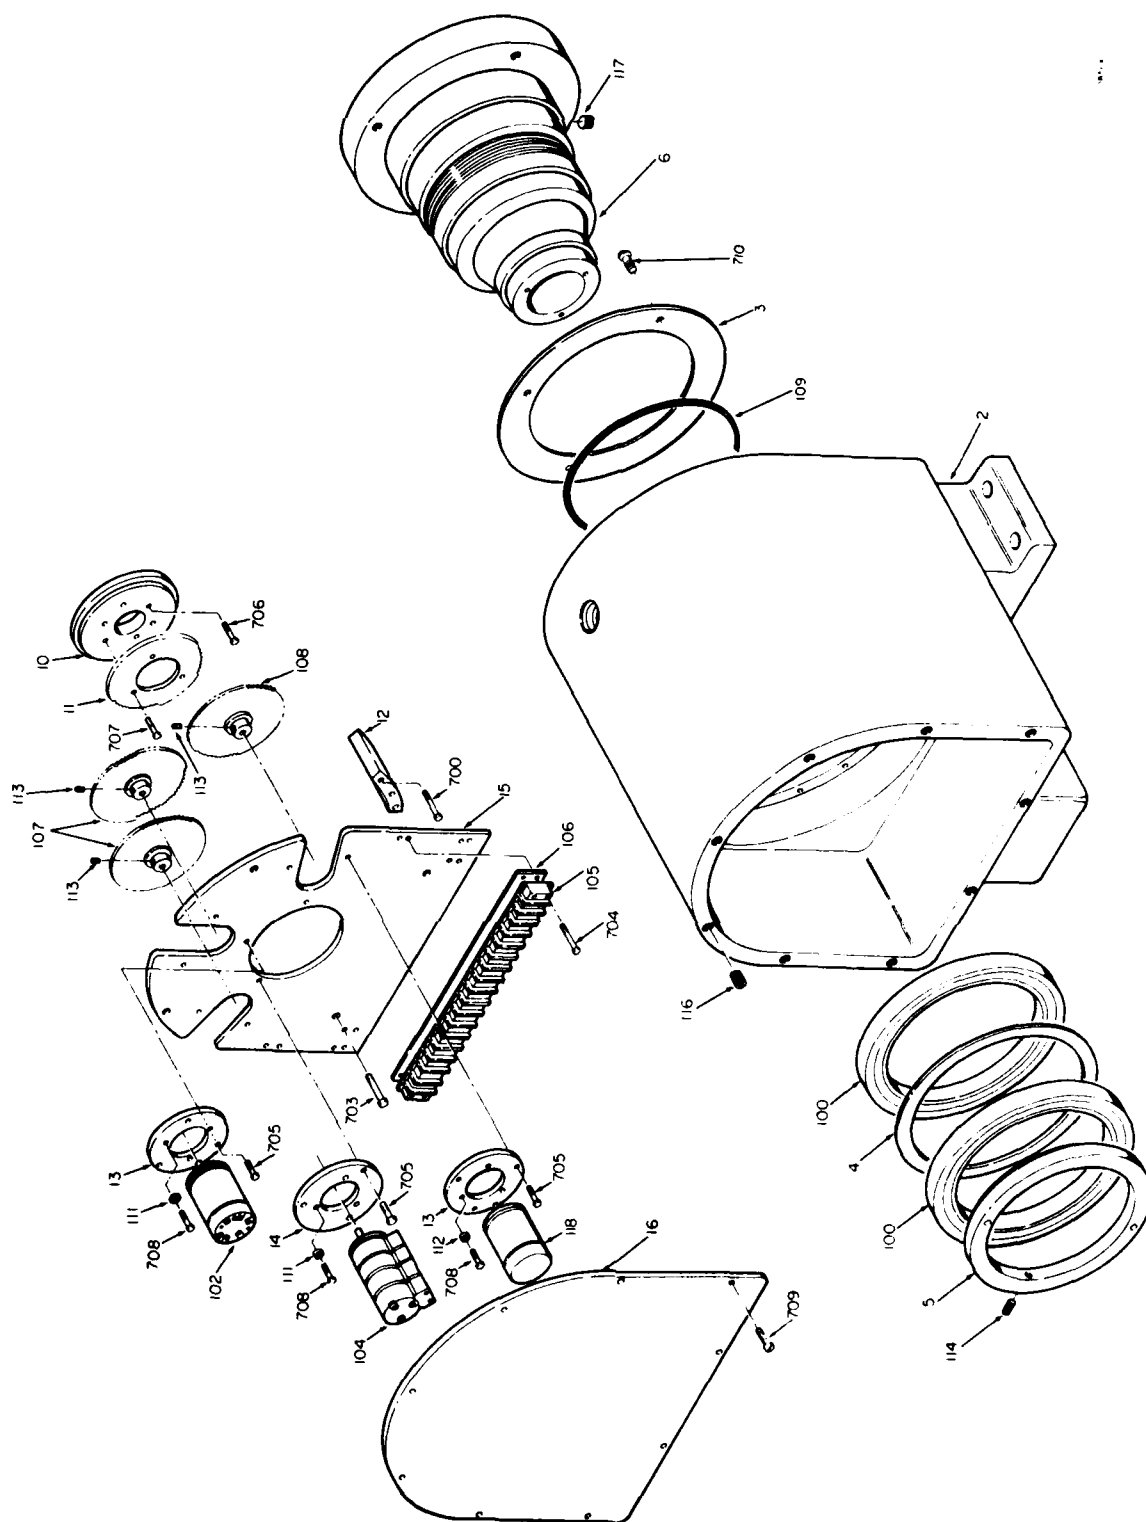
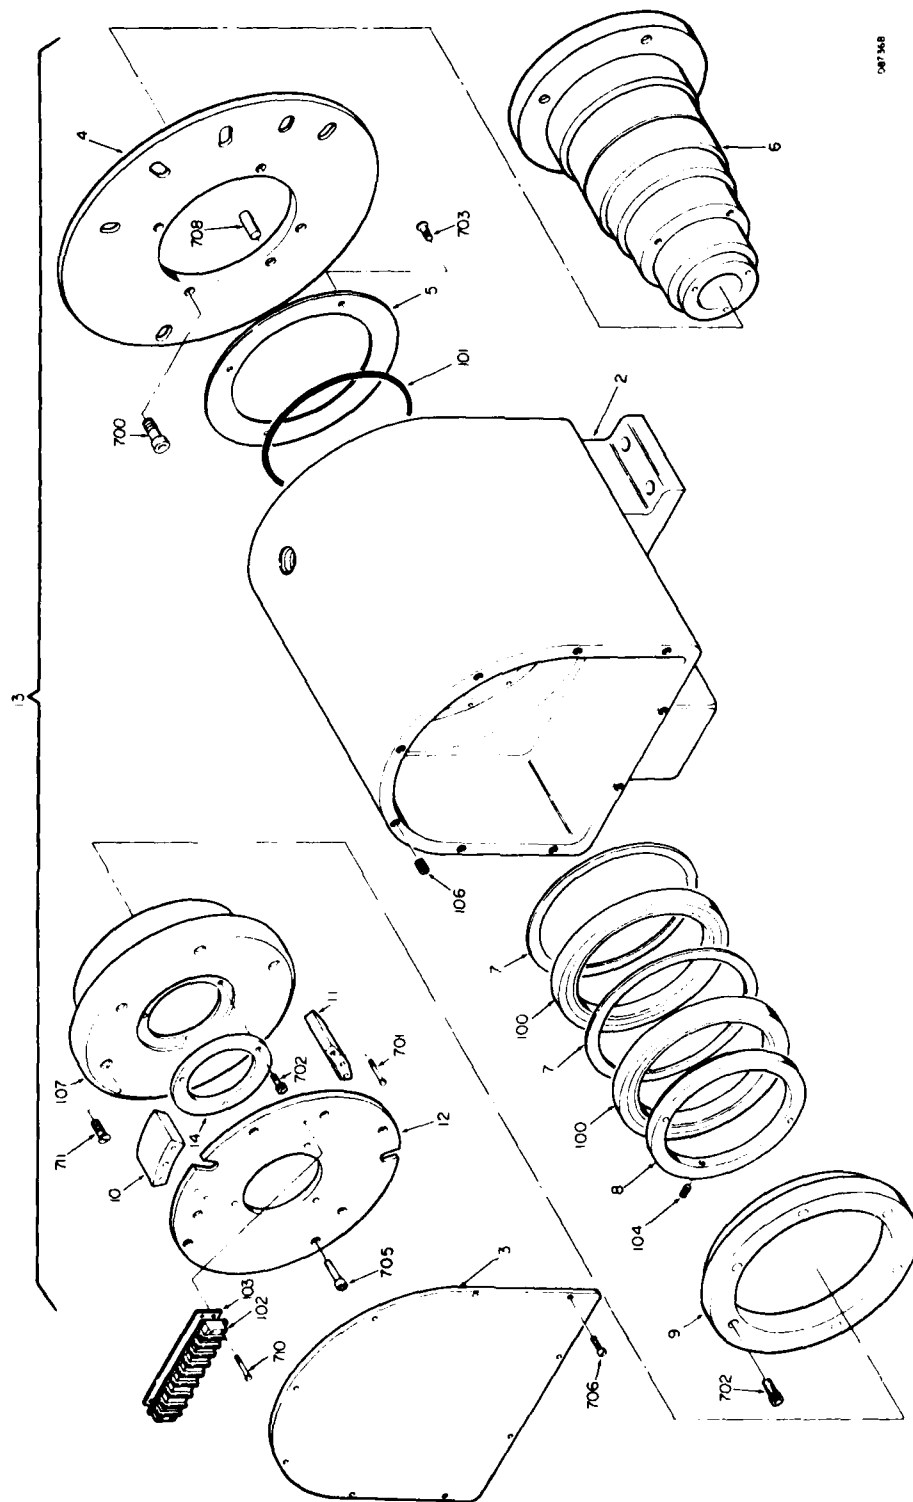

Figure 5.7. Drive Side (Shock Side) Pillow Block
Figure 5.8. Readout Side (Caging Side) Pillow Block
- a. Remove 9 screws (709, Figure 5.7), cover (16) and gasket from pillow block.
- c. Carefully mark orientation of component gears (107 and 108) with respect to drive gear (11).
- d. Loosen six screws (705) and two circular mounting plates (13).
- e. Remove four screws (703) and component mounting plate (15).
- n. Remove shaft (6, Figure 5.7) from the pillow block.
- o. Remove four screws (710), seal retainer (3) and seal (109).
- p. Loosen setscrew (114) and using a spanner wrench, turn counterclockwise to remove bearing retainer (5), bearing (100), spacer (4), and bearing (100).
- a. Remove nine screws (706, Figure 5.8), cover (3) and gasket.
- c. Disconnect motor wires connected to TB7 (102).
- d. Remove four screws (705) and component mounting plate (12).
- e. Remove four screws (702) and motor retainer (14).
- f. Remove brush blocks and brushes (1 and 2, Figure 5.6) from motor (107, Figure 5.8).
- h. Remove 6 screws (711, Figure 5.8) that fasten motor to pillow block.
- k. Using Figure 5.8 as a reference, remove searchlight, gimbal and shaft from positioner as in steps 5.16.1.f through 5.16.1.n. Do not remove caging disk (4) from shaft except for replacement.
- l. Remove four screws (703), seal retainer (5) and seal (101).
- a. Install bearing (100, Figure 5.7), spacer (4), bearing (100) and bearing retainer (5). Using a spanner wrench, turn clockwise until bearing retainer is tight. Tighten setscrew (114).
- b. Install seal (109), seal retainer (3) and four screws (710).
- c. Install shaft (6), lining up marks made in step 5.16.1.h. If both pillow blocks are being assembled, make sure both shafts are in place before installing gimbal.
- f. Install two roll pins (101) in each side of the positioner.
- i. Install component mounting plate (15, Figure 5.7) and four screws (703).
- j. Line up reference marks made on gears (107 and 108) in step 5.16.1.b. Decrease backlash in each component separately at the high spots. Tighten circular mounting plates (13) when the gears are lined up.
- k. Install cover (16), gasket (xx) and nine screws (709).
- a. Install seal (101, Figure 5.8), seal retainer (5) and four screws (703).
- b. Install spacer (7), bearing (100), spacer (7), bearing (100) and bearing retainer (8). Using a spanner wrench, turn clockwise until retainer is tight. Tighten setscrew (104).
- c. Install bearing retainer (9) and four screws (702).
- d. Using Figure 5.8 as a reference, install searchlight, gimbal and shaft in positioner as in steps 5.16.4.c through 5.16.4.h.
- e. Install motor (107) on shaft (6). Install six screws (711) that fasten motor to pillow block. If keeper was installed, remove it at this time.
- h. Install motor retainer (14, Figure 5.8) and four screws (702).
- i. Pass motor wires through a convenient slot in the component mounting plate and connect wires to correct terminals of TB7 (102).
- j. Install component mounting plate (12) and four screws (705).